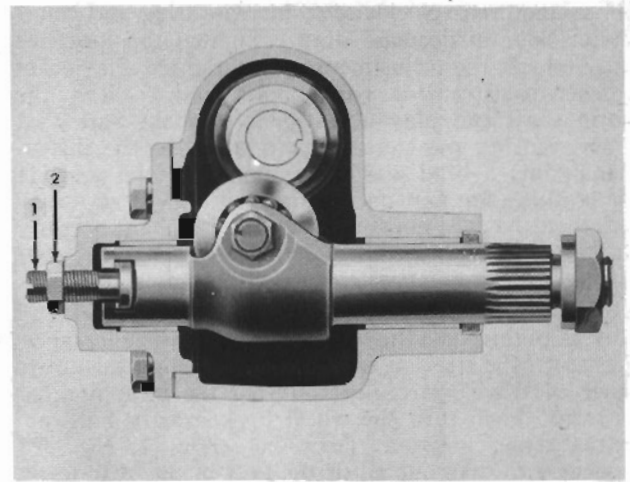

FIG. 32
Loosen the lock nut (2, Fig. 32) and turn the adjusting screw (1) a few turns in the counterclockwise direction. This releases the worm shaft bearings from the load caused by close meshing of the worm and roller. Turn the steering wheel gently in one direction until stopped by the gear, then back away one turn.
(1) as required (clockwise to increase drag and counterclockwise to decrease drag.) Tighten the lock nut and recheck the adjustment. Then tighten the jacket bracket-to-instrument panel bolts and recheck the worm shaft end play adjustment to make sure that when securing the steering gear jacket to the instrument panel a bind was not imposed on the gear. If the readings are now out of limits, it will be necessary to loosen the gear housing mounting bolts and slightly shift or shim the assembly to correct the binding condition.
After proper adjustment of the worm shaft end play is obtained, adjust the roller-to-worm clearance. First turn the steering wheel gently through the entire range of travel, carefully counting the total number of turns. Then turn the wheel back exactly halfway, to the center position. Turn the screw (1, Fig. 32) clockwise to take out all of the lash in the gear teeth, and tighten the lock nut (2). Then check the pull at the wheel as in the first adjustment, taking the highest reading of the scale as the wheel is pulled through the center position. This should be 14 to 30 ounces (390 to 840 grams). Readjust the screw (1), if necessary, to obtain proper pull. After setting the lock nut (2), recheck the adjustment. After making the adjustment, connect the steering reach rod to the pitman arm.